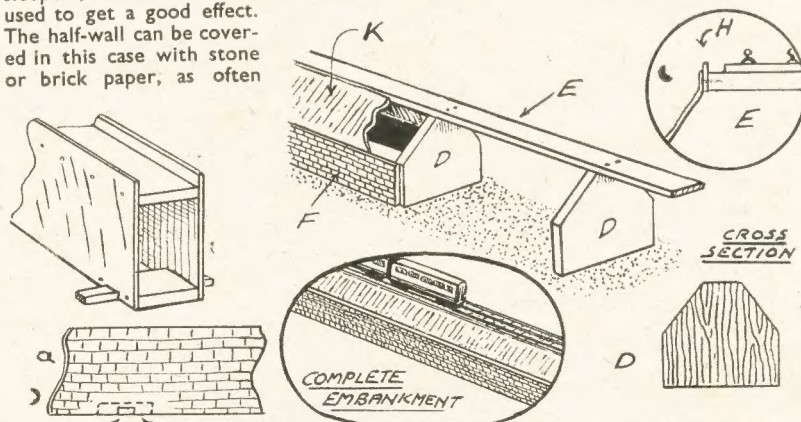

Fig. 3—The parts of a built-up embankment
For the type of embankment with a wall at the bottom, cut a number of 'cross-sections' as (D), Fig. 3, out of $\frac{1}{2}$ in. or even $\frac{3}{4}$ in. wood. These are set at well-spaced intervals along the course of the length in question and then connected by the top board (E) which takes the rails. Fasten together with long small-diameter screws at the point of contact and then put on the wall (F) a suitably-sized strip of plywood or stiff card. When together, these sections form a very rigid frame.